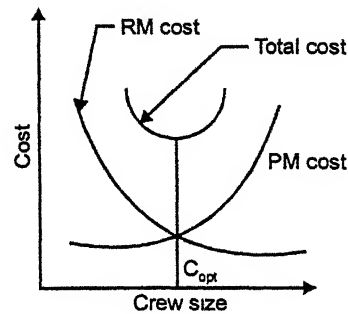

Fig. 4.2.
- In Fig. 4.2  $C_{opt}$  Indicates *optimum crew size for minimum total cost of (RM + PM) costs*.